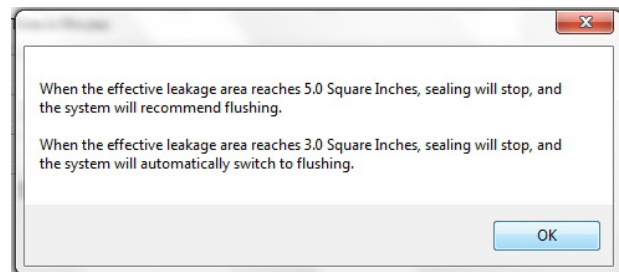

Figure 8. 5.0 sq.in. & 3.0 sq. in. / 19.3cm² & 32.2cm²
18. Software alerts you when ELA reaches 32cm² (Figure 8).